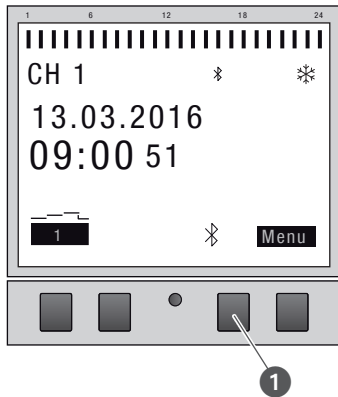

Fig. 20: Establishing a Bluetooth connection to the plug-in timer
1. Press the Bluetooth button (Fig. 20/1) on the plug-in timer.